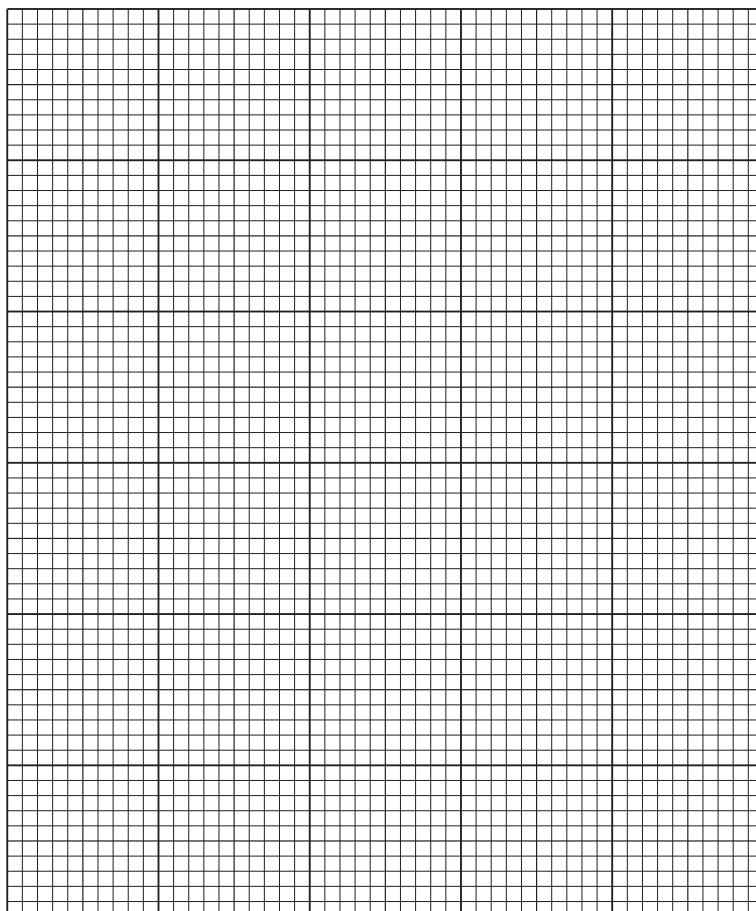

Fig. 1.1
- (i) Plot a graph of the data shown in Table 1.3 on the grid in Fig. 1.1.